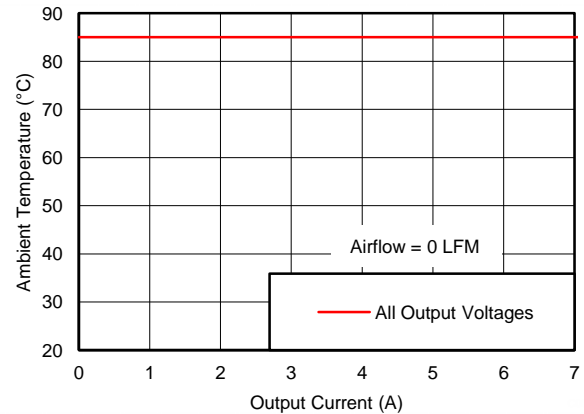

Figure 9. Safe Operating Area
- (2) The temperature derating curves represent the conditions at which internal components are at or below the manufacturer's maximum operating temperatures. Derating limits apply to devices soldered directly to a 100 mm × 100 mm, 4-layer PCB with 2 oz. copper. Applies to Figure 9.